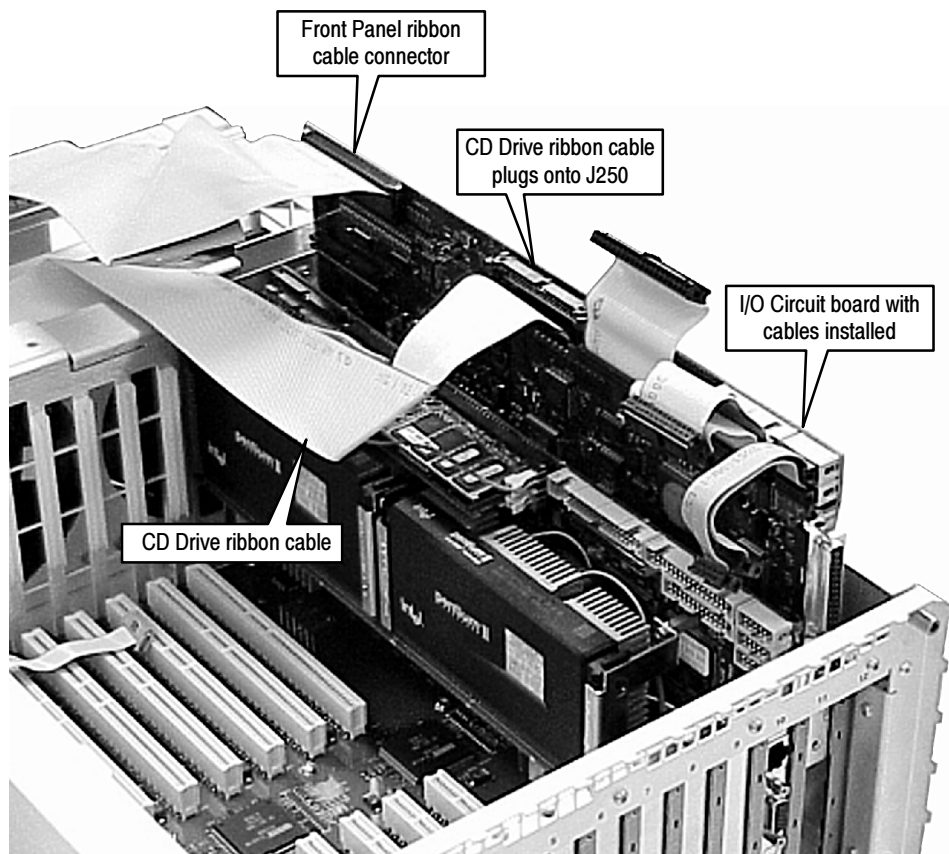

Figure 6: Removing the I/O board from slot 12
4. Disconnect the CD drive ribbon cable from J250 of the I/O circuit board. See Figure 6.
6. Disconnect the front panel ribbon cable from JR1 on the I/O board. See Figure 6.